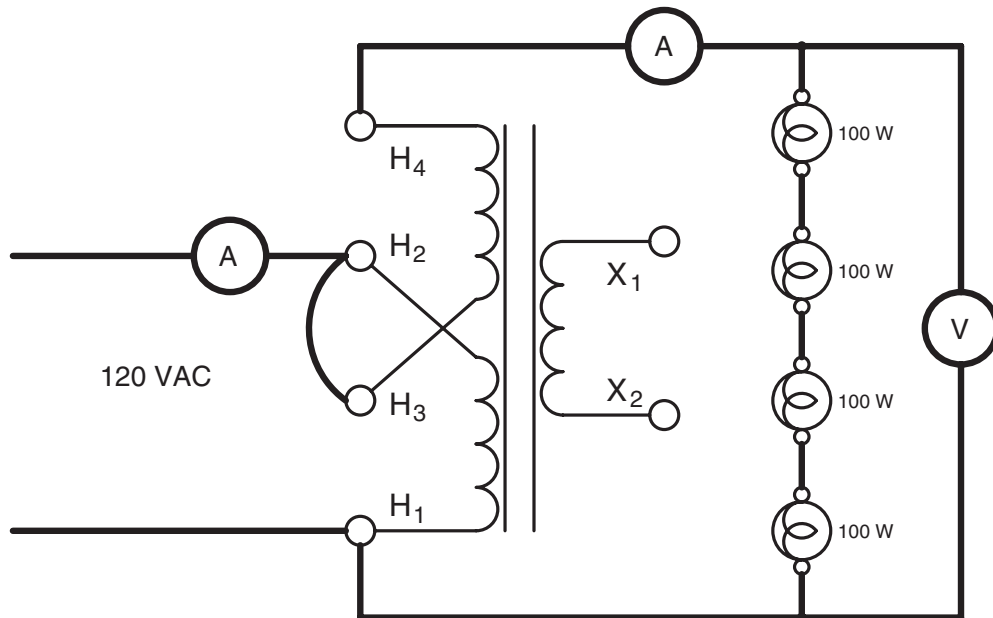

Figure 22-10 Adding load to the secondary winding.
28. Connect an AC ammeter and four 100 watt lamps in series with terminals H_4 and H_1 , as shown in Figure 22-10.